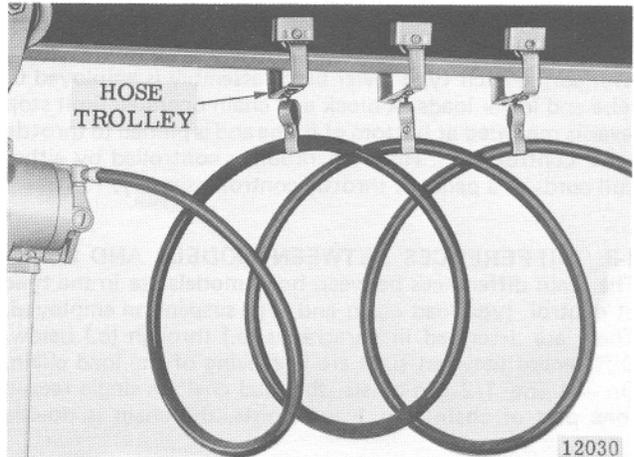

Figure 2-2. Air Hoist Supported by CM Hose Trolleys.
- b. If hoist is suspended by trolley, provide sufficient hose to reach from air source to farthest point of trolley travel. CM Hose Trolleys are recommended to keep hose up out of the way (see Figure 2-2).